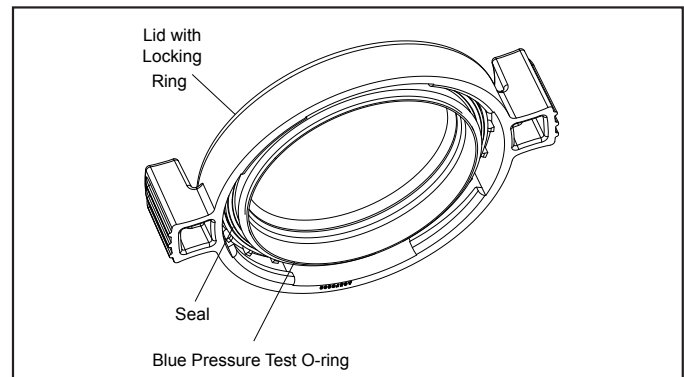

Figure 14. Blue Pressure Test O-ring
IMPORTANT: All VSSHP models come with an additional disposable o-ring for pressure testing. This is the blue pressure test o-ring (See Figures 14 and 15). If you opened the pump lid before conducting the pressure test, the blue o-ring may fall out. If the blue o-ring falls out, it must be re-installed on the lid before beginning the pressure test (See 3.6.2).
2. Place the blue o-ring on the step located $\frac{1}{4}$ " from the bottom of the lid. See Figure 14.